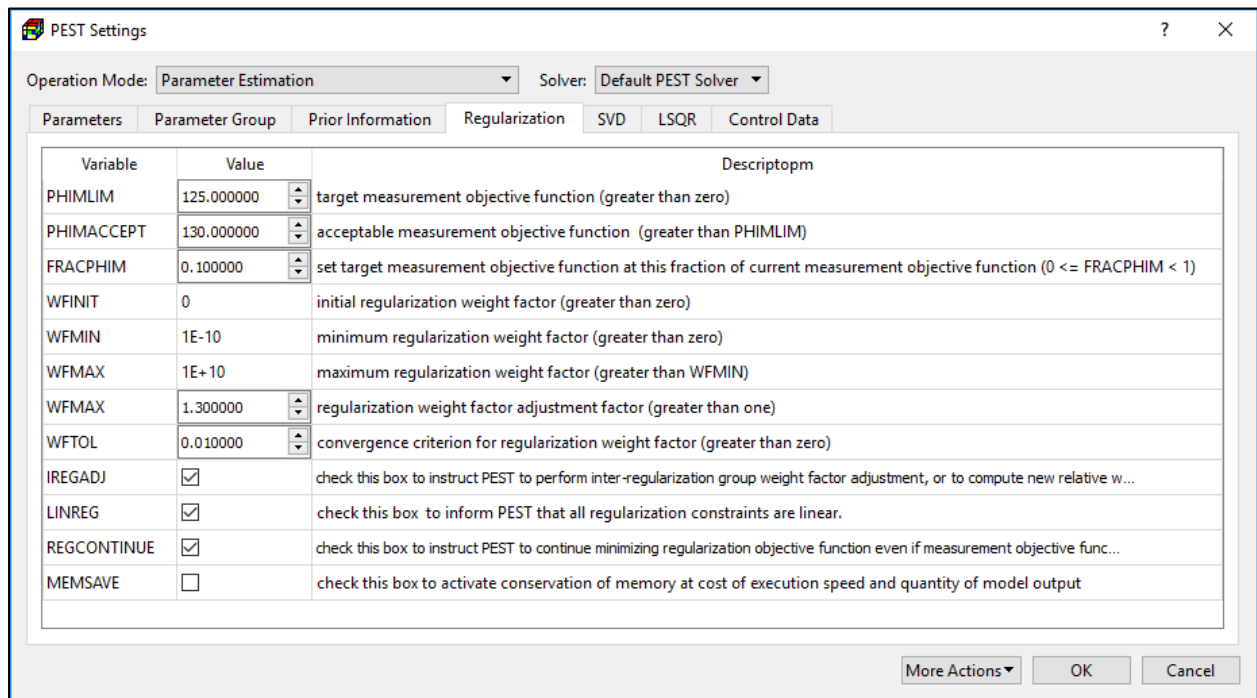

Figure 111. The Regularization tab of the PEST Settings dialog box
7. **Regularization Tab** (Figure 111): Tikhonov regularization is the most commonly used method of regularization and is incorporated in PEST. In its broadest sense, regularization is a term used to describe the process whereby many parameters can be simultaneously estimated without incurring the numerical instability that normally accompanies parameter nonuniqueness. Numerical stability is normally achieved through the provision of supplementary information to the parameter estimation process. Such supplementary information often takes the form of preferred values for parameters, or for relationships between parameters (i.e., prior information). Thus if, for a parameter, the information content of the observation dataset is such that a unique value cannot be estimated for